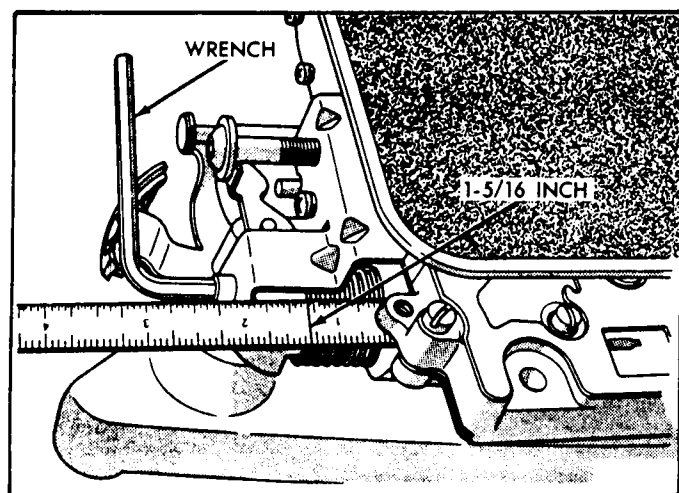

Figure 124
1. Measure distance from the valve body to the inner edge of the adjusting screw with an accurate steel scale, as shown in Figure 124.